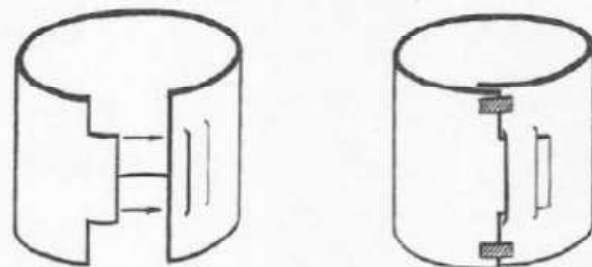

Figure 1
- ☐ Insert the tongue of the cardboard duct into the slot at the opposite end to form a tube. (Figure 1) Place tube into duct port and expand to its full diameter. Cut off two short pieces of gasket tape material approximately 1" long, strip off backing and press onto the seams near the top and bottom edges to prevent it from coming apart.